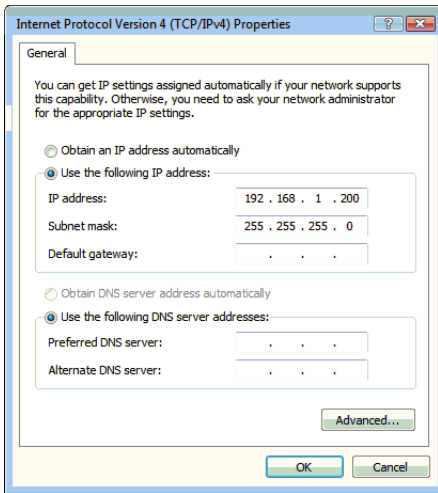

Figure 6-7 Internet Protocol Version 4 (TCP/IPv4) Properties
4. Select Internet Protocol Version 4 (TCP/IPv4), then click the Properties button. The PC displays the Internet Protocol Version 4 (TCP/IPv4) Properties window (Figure 6-7).